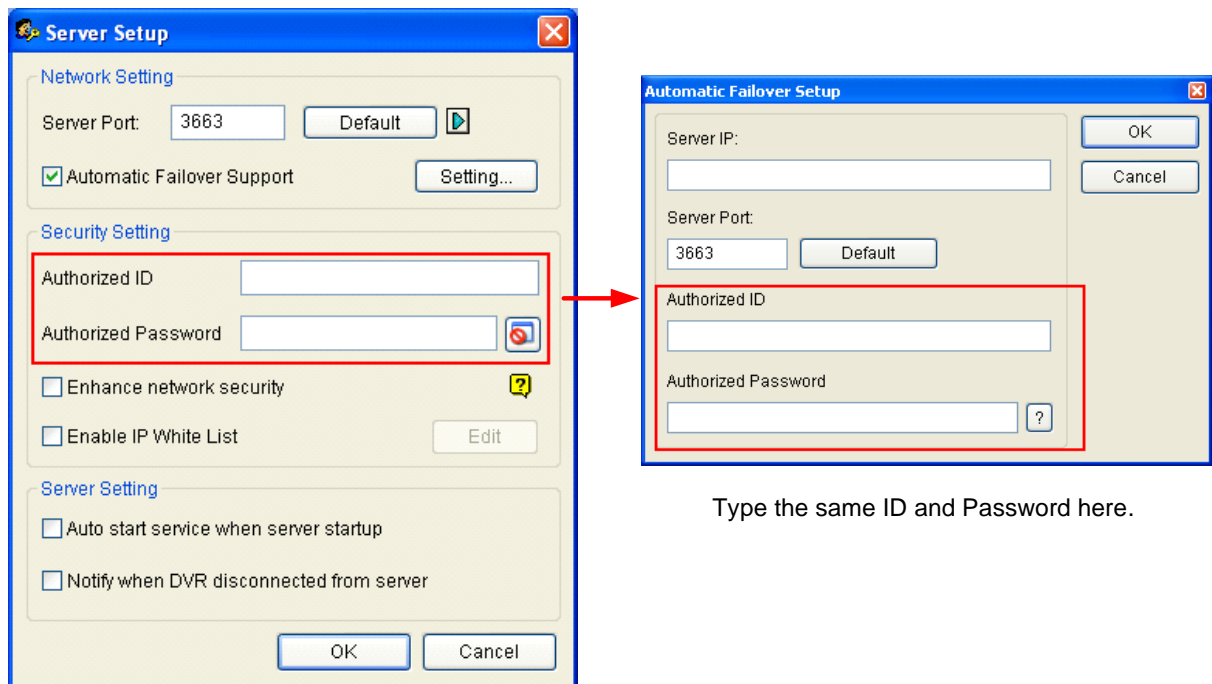

Figure 11-33
2. On the Authentication Server window, click the **Server Setup** button. The Server Setup dialog box (Figure 11-33) appears.
4. Click the **Add** button. The Automatic Failover Setup dialog box (Figure 11-33) appears.